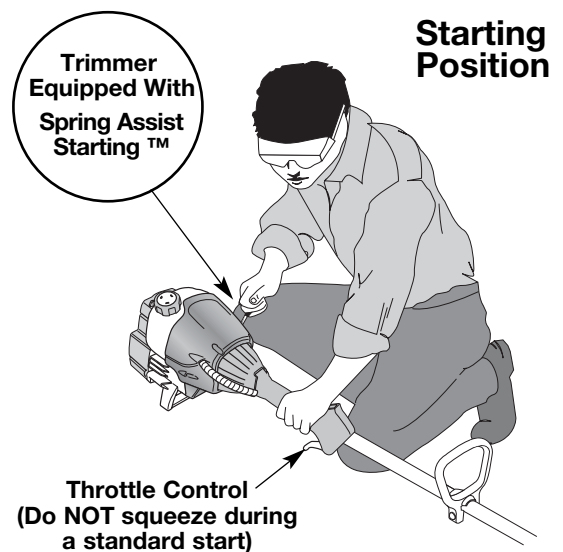

Fig. 8
WARNING: Avoid accidental starting. Make sure you are in the starting position when pulling the starter rope (Fig. 8). To avoid serious injury, the operator and unit must be in a stable position while starting. Make sure that any Add-On item is installed correctly and secure before starting the unit.
5. Crouch in the starting position and **do not squeeze the throttle control** (Fig. 8). Pull the starter rope out with a **controlled and steady motion** until the engine attempts to start. Repeat until the engine starts.